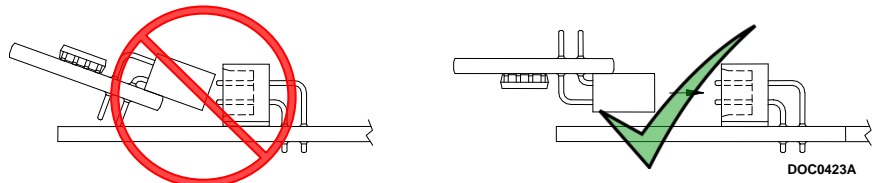

Figure 3. License Key Installation
6. Press the license key into the terminal unit it is firmly seated (refer to Figure 3).